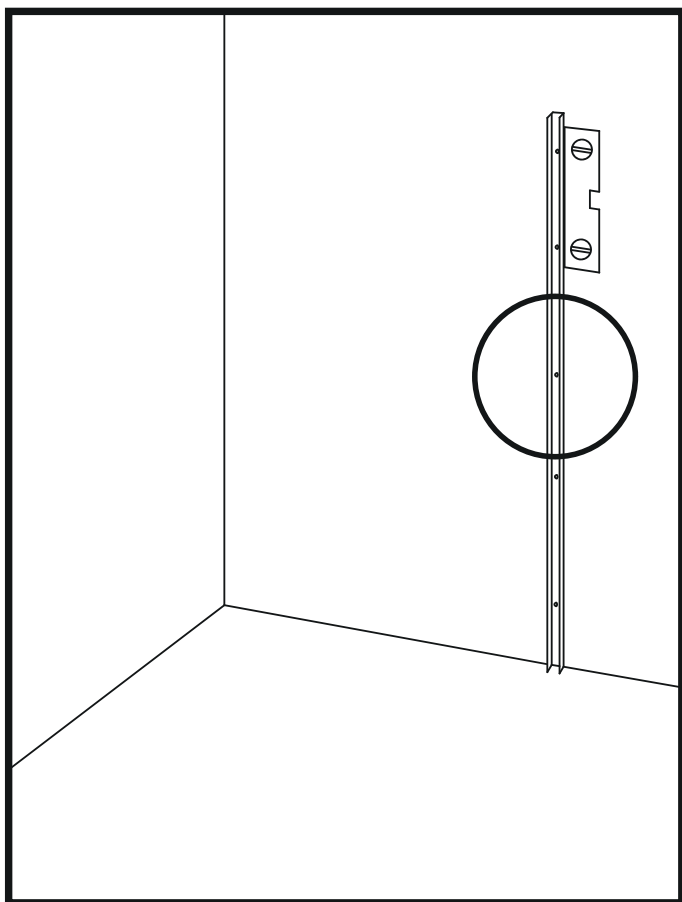

Figure 3
4. Place the longer U-profile vertically on the wall using a level so that the edge of the U-profile is flush with the marked dot and the end of the slat is against the floor. Mark the holes in the profiles (the locations of the dowel holes) on the wall and remove the profile. If marks remain on the edges of the ceramic tiles, try turning the profile the other way and making the marks again. (Figure 3)